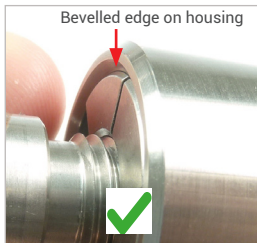

Figure 11
- ▶ Release the valve button (Pos. 4). The connector tightens itself to the test piece and creates a pressure-tight connection. The plane surface of the clamping jaws is at the same height as the chamfer of the housing (Figure 11).